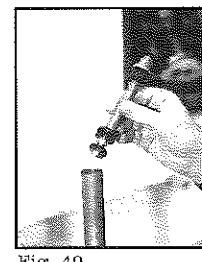

Fig. 49
6. Install the new lower shaft assembly into the leg (Fig. 49) and thread it into the end of the stanchion. Tighten the end cap to 30 lb·in max. Do not over tighten as this may cause damage.